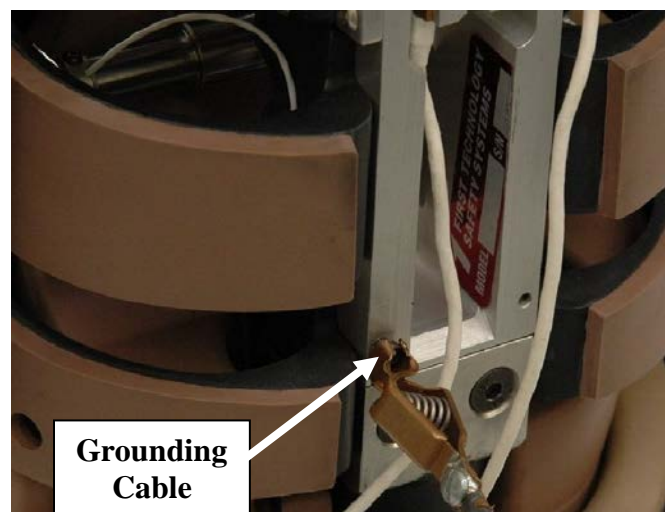

Figure 80. Grounding the dummy
- Unfasten the upper portion of the suit jacket and electrically ground the dummy using a cable between a metal component of the dummy and the ground such as that shown in Figure 80.